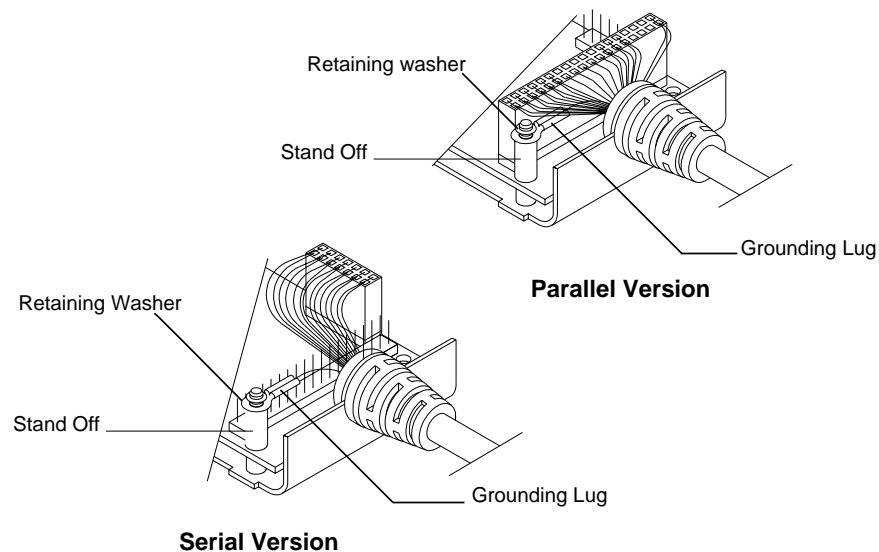

Figure 3
8. Before putting the lid and base back together, make sure that metal stand-off, the ground cable from the I-O 4440's serial or parallel cable, and the little washer are positioned over the long screw next to the parallel or serial cable (see figure 3).